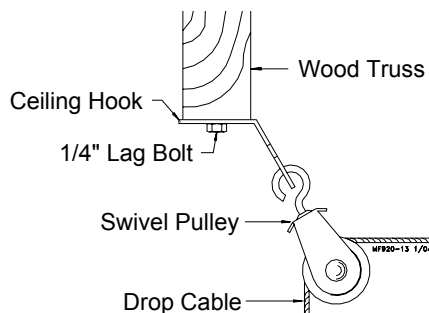

Figure 19. Pulley Installation
6. After securing the ceiling hook to the truss, slide the hook of a swivel pulley into the slot, as shown in **Figure 19**.